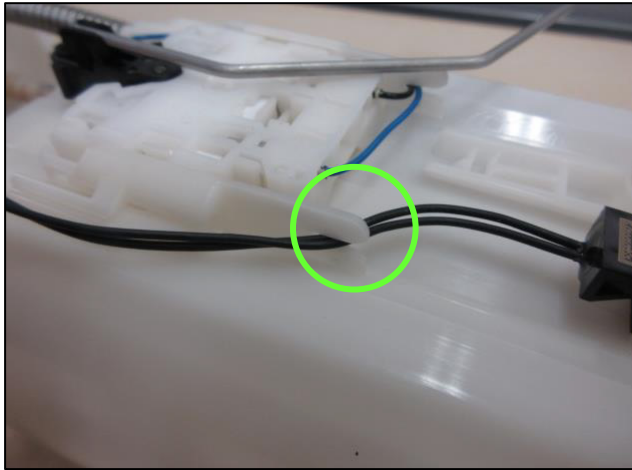
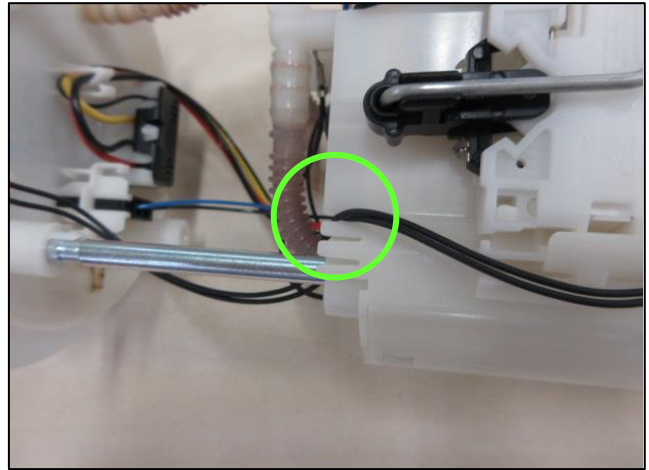
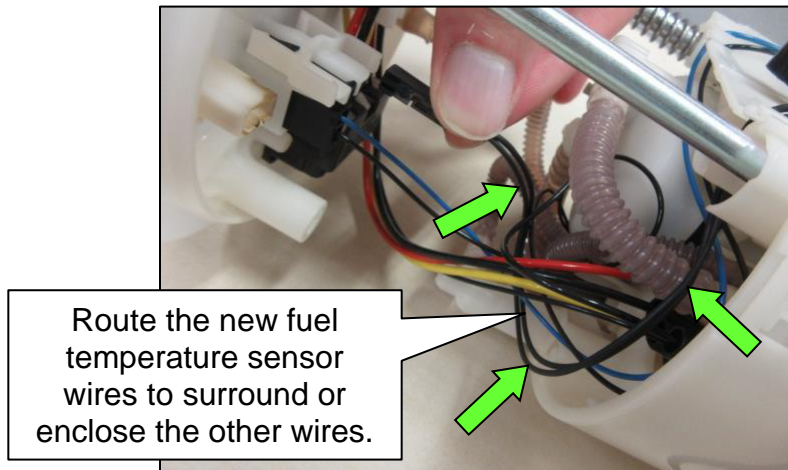

Figure 14
Figure 15
Figure 16
8. Route the wires for the new fuel temperature sensor as shown in Figure 14, Figure 15, and Figure 16.